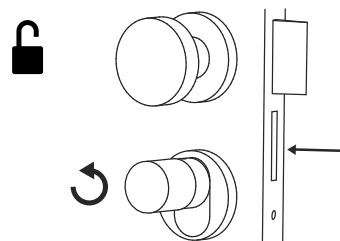
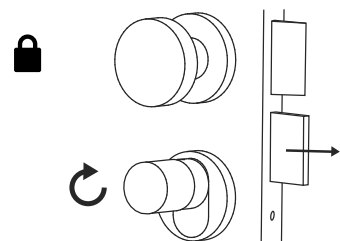

Fig. 2
Fig. 3
- 2 You receive a visual feedback by a red LED lighting up on the transponder. The cylinder is now released and the lock can be opened (fig. 2) or locked (fig. 3).